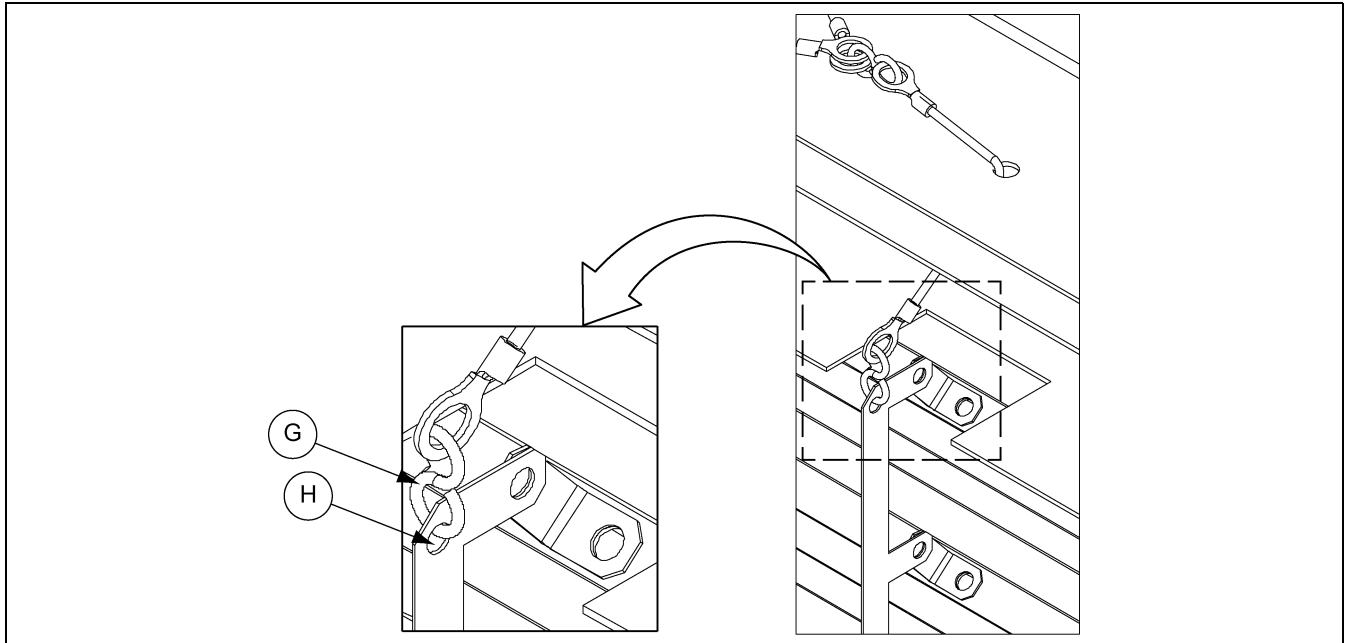

Figure 4 Cable Assembly
- Drill a 3/16" hole at the end of the linkage bar as shown in Figure 4.
- Attach the cable assembly (F-7208) to the linkage bar of the shutter using the S-hook (G) provided. (See Figure 4.)